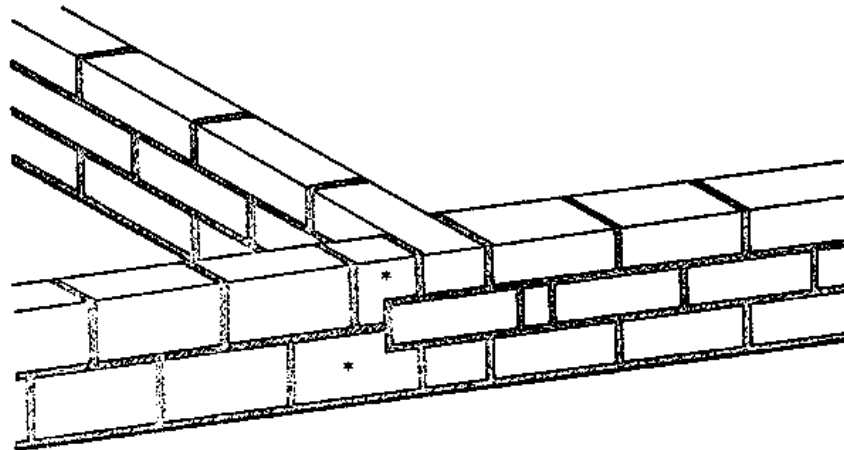

Fig. 1 SITUATION "A" - COMMON BLOCKS, OUTSIDE FLUSH
- SITUATION "A", COMMON BLOCKS, OUTSIDE FLUSH: As with the corner bond using common blocks (previous page), this bonding problem can only be solved by shaping the first blocks of both courses of the thin wall so that the second course of the thick wall can be bonded (Fig. 1). This requires precise and careful cutting.